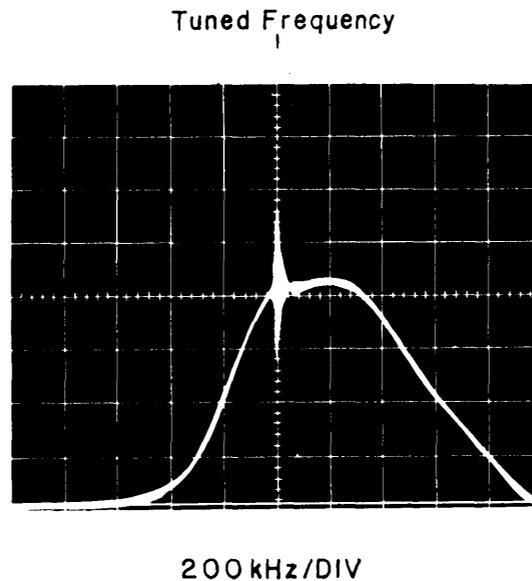

Figure 4-12. Typical Response, 1.5-4.5 MHz RF Preselector
- (8) Connect the DVM to board terminal 5 of the 1.5- 4.5 MHz RF Preselector (A3) and adjust the tuning shaft for 1.00 Vdc at this point.
- (9) Set the sweep generator to sweep 2 MHz about a 1.5 MHz center frequency at a -15 dBm output level.
- (10) Adjust A3L1, A3L4, A3L5 and A3L7 for maximum response.
- (11) Readjust the tuning shaft for +9.0 Vdc at terminal 5 and set the sweep generator center frequency to 4.5 MHz.
- (12) Adjust A3C1, A3C4, A3C10 and A3C13 for maximum response.
- (13) Repeat steps (9) through (12) until interaction between steps is minimized. Figure 4-12 illustrates a typical response for the 1.5- 4.5 MHz RF Preselector. The 3 dB bandwidth should be approximately 20% of the tuned frequency.